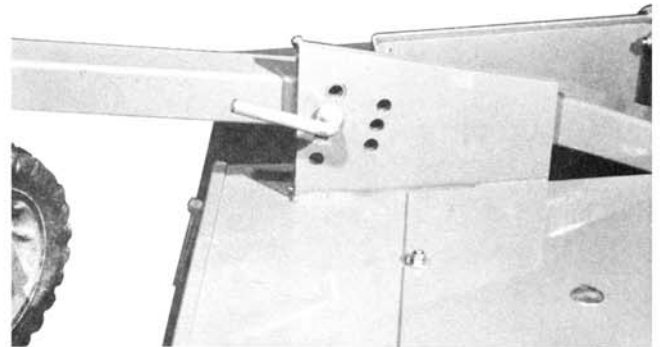

fig 16
2. Set caster wheel supports to the desired cutting height by locating the adjustment bolt in the desired hole of the adjusting flange on the mower deck. See fig 16.